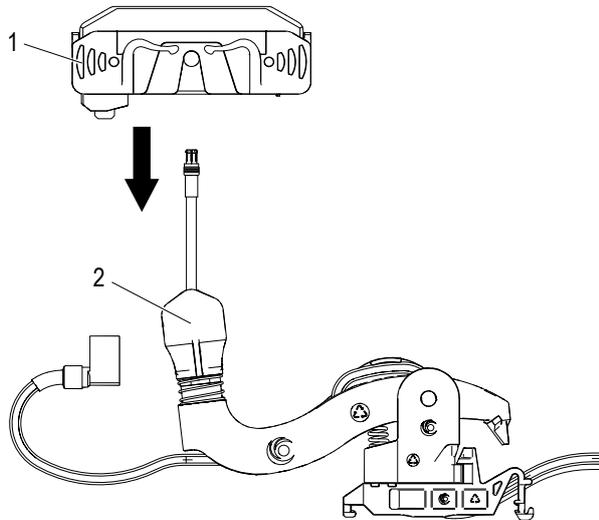

Fig. 163: Balance incl. sliding contact (1) is mounted
→ Mount the balance incl. sliding contact (1) onto the balance on the collector arm (2) (see Fig. 163).